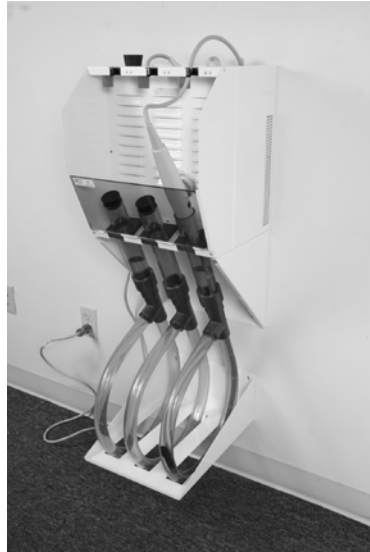

Figure 7. G14TC-3 Installed
14. Place the curved soak and rinse tubes into the rack and slide the clear plastic panel into the front of the system (see Figure 7).